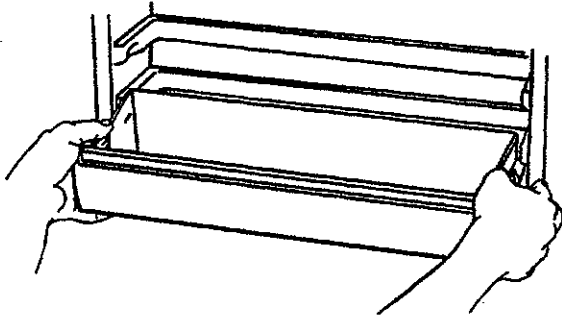

Figure 66
- With thumbs and forefingers of both hands, push and hold lock tabs toward center of bucket. See Figure 66.